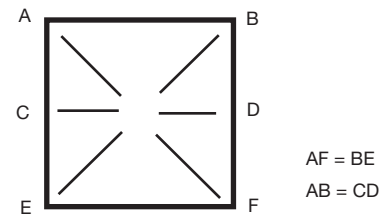

Figure 3
- 6) Individual damper sections, as well as entire multiple section assemblies must be completely square and free from racking, twisting, or bending. Measure diagonally from upper corners to opposite lower corners of each section (see Figures 3 & 4)